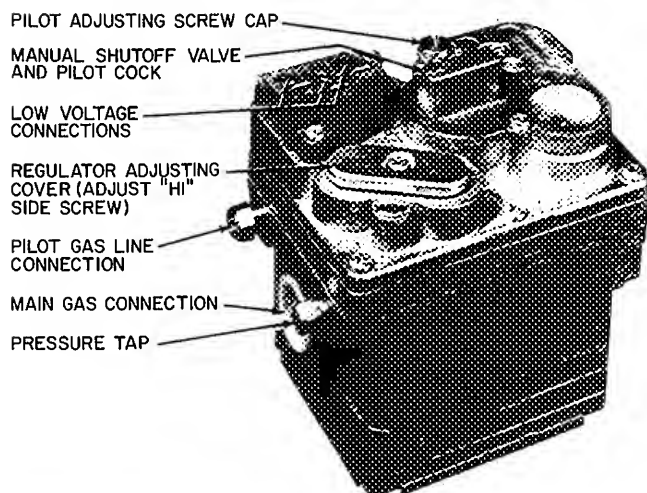

Fig. 6 – Unit Gas Valve
3. Turn manual shutoff valve (Fig. 6) to PILOT. Then depress valve and turn to OFF.
3. Remove pressure tap plug from main gas valve (Fig. 6) and install pressure tap.
1. Remove pressure regulator adjusting screw cap on main gas valve (Fig. 6).